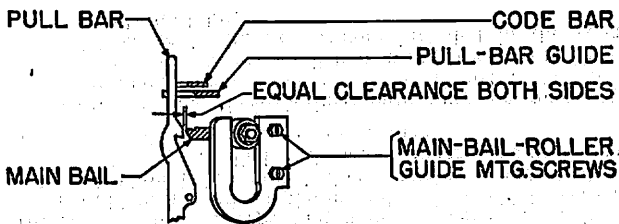

Fig. 32
**Figs. 32 and 33**
(a) left roller-guide so that check conditions covered in (a) are met and then tighten both of its mounting-screws. Fig. 32 and 33